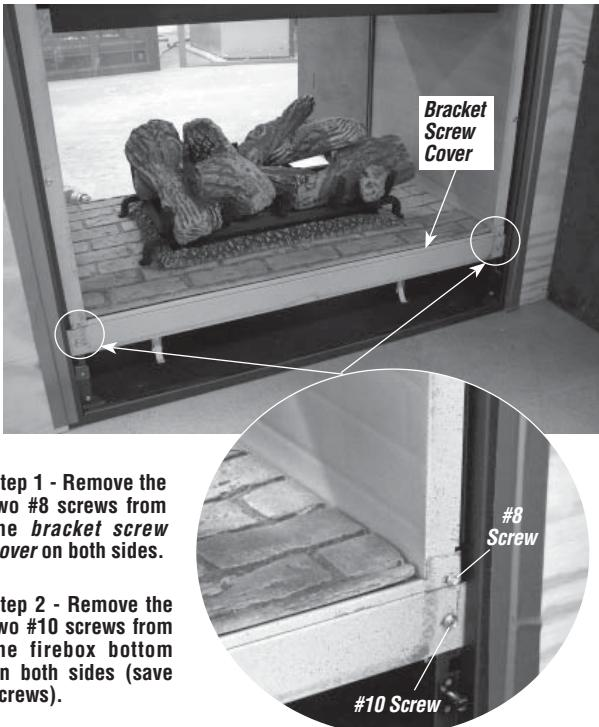

Figure 5b - Install Firebox Cover
- 3. **Install Firebox Bottom Cover Panel** - For Models EDV-35/40/45, see **Figure 5a**. For Model EDVST see **Figure 5b**.